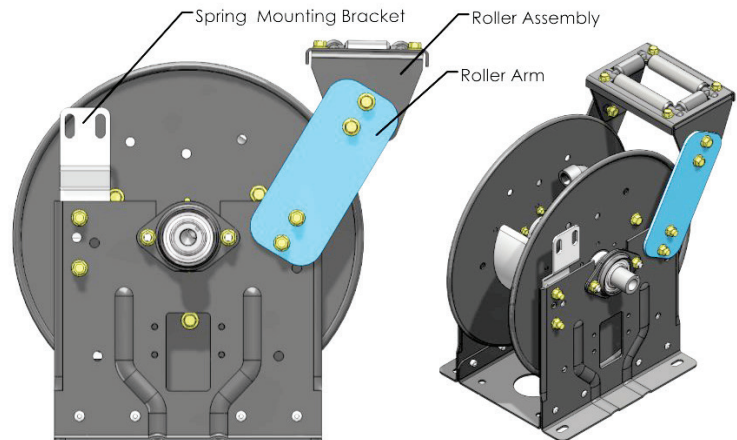

Figure 2 - Reel with Rollers in the “VR” Position
4. Swing the Roller Bracket up to the VR position (Figure 2), until the holes on the bracket line up with the holes in the frame. Replace and tighten the bolts.
5. Reposition the spring mounting bracket as shown in Figure 2, using two 3/8”-16 x 0.75 spinlock bolts and two 3/8”-16 spinlock nuts. The reel should look like Figure 2.
7. Rotate the roller assembly so that it is pointed in the same direction as shown in Figure 2.